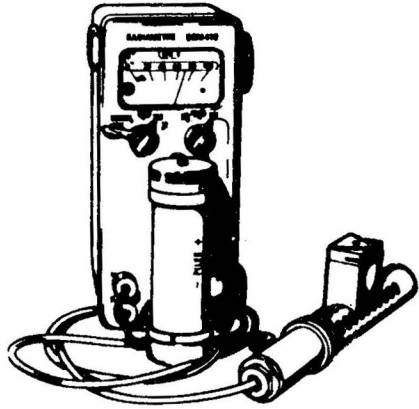

Fig. 15
- set the sensitivity selector switch to 100 and place the source on the probe as shown in figure 15. The instrument shall read 40 to 100 c/s.